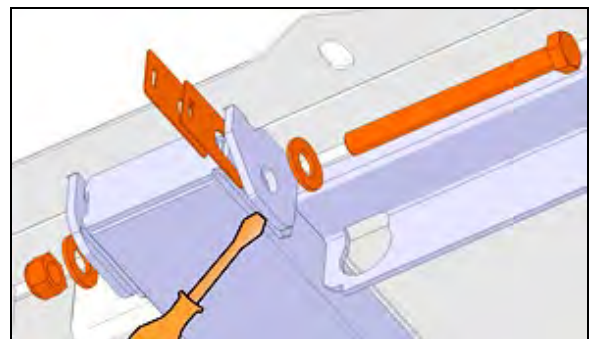

FIGURE 24: SHIM INSTALLATION, TRANSVERSE SCREW. ARRANGEMENT MAY VARY
5. Shim arrangement may vary and may be stacked on both sides (Figure 24).